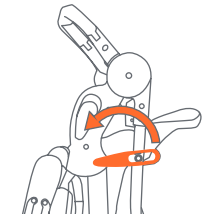
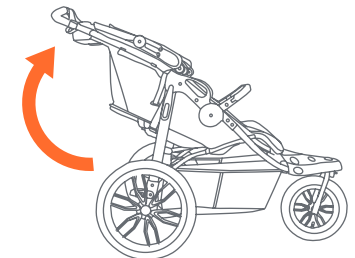

Fig. 20a
Fig. 20b
- 20) • Unlock the release lever (Fig. 20a) and unfold stroller frame by pulling backward on the stroller handle until the frame locks (Fig. 20b).